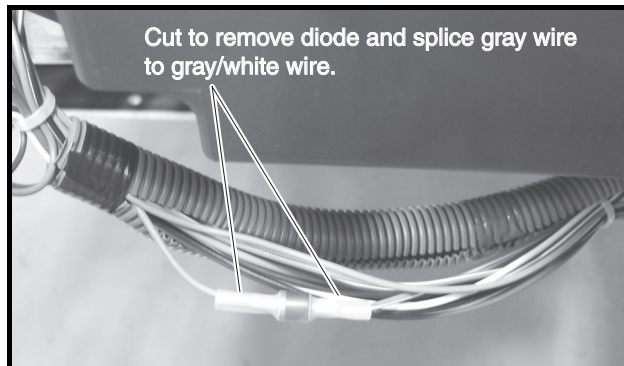

Figure 19-10 Diode Removal
2. Remove the diode from the gray/white and gray wires as indicated (**Figure 19-10, Page 19-13**).